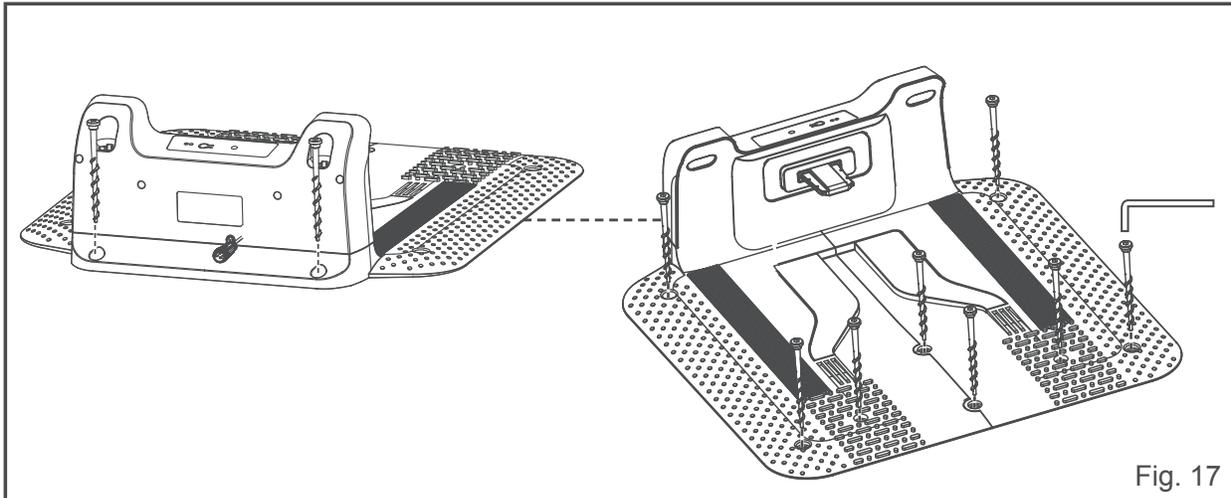

Fig. 17
- Secure the base station to the ground with the supplied screws (Fig. 17).